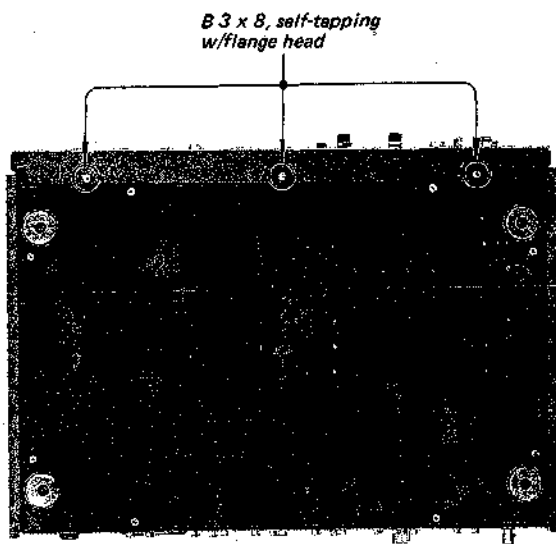
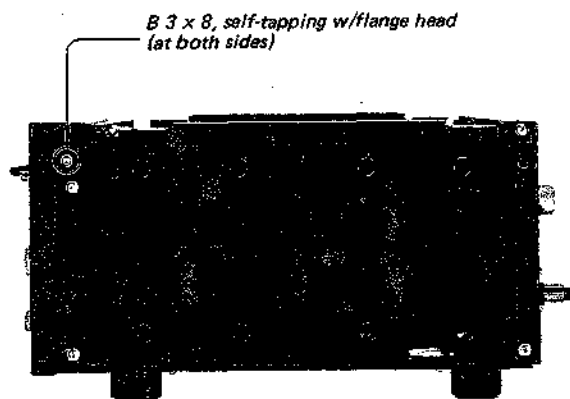

Fig. 2-1. Front panel removal
Fig. 2-2. Front panel removal
3. Remove the five screws shown in Fig. 2-1 and Fig. 2-2.